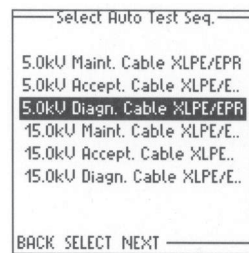

Figure 4
- [10] **SELECT** desired automatic test sequence (from those identified in Step 5.4[3]), **THEN PRESS** "Next" to continue (see Figure 4)